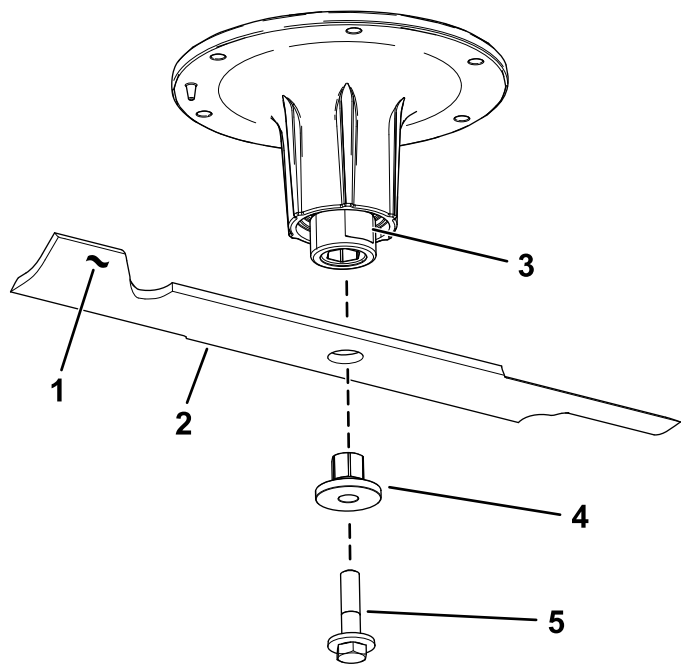

Figure 111
2. Remove the blade bolt, bushing, and blade from the spindle shaft (Figure 111).